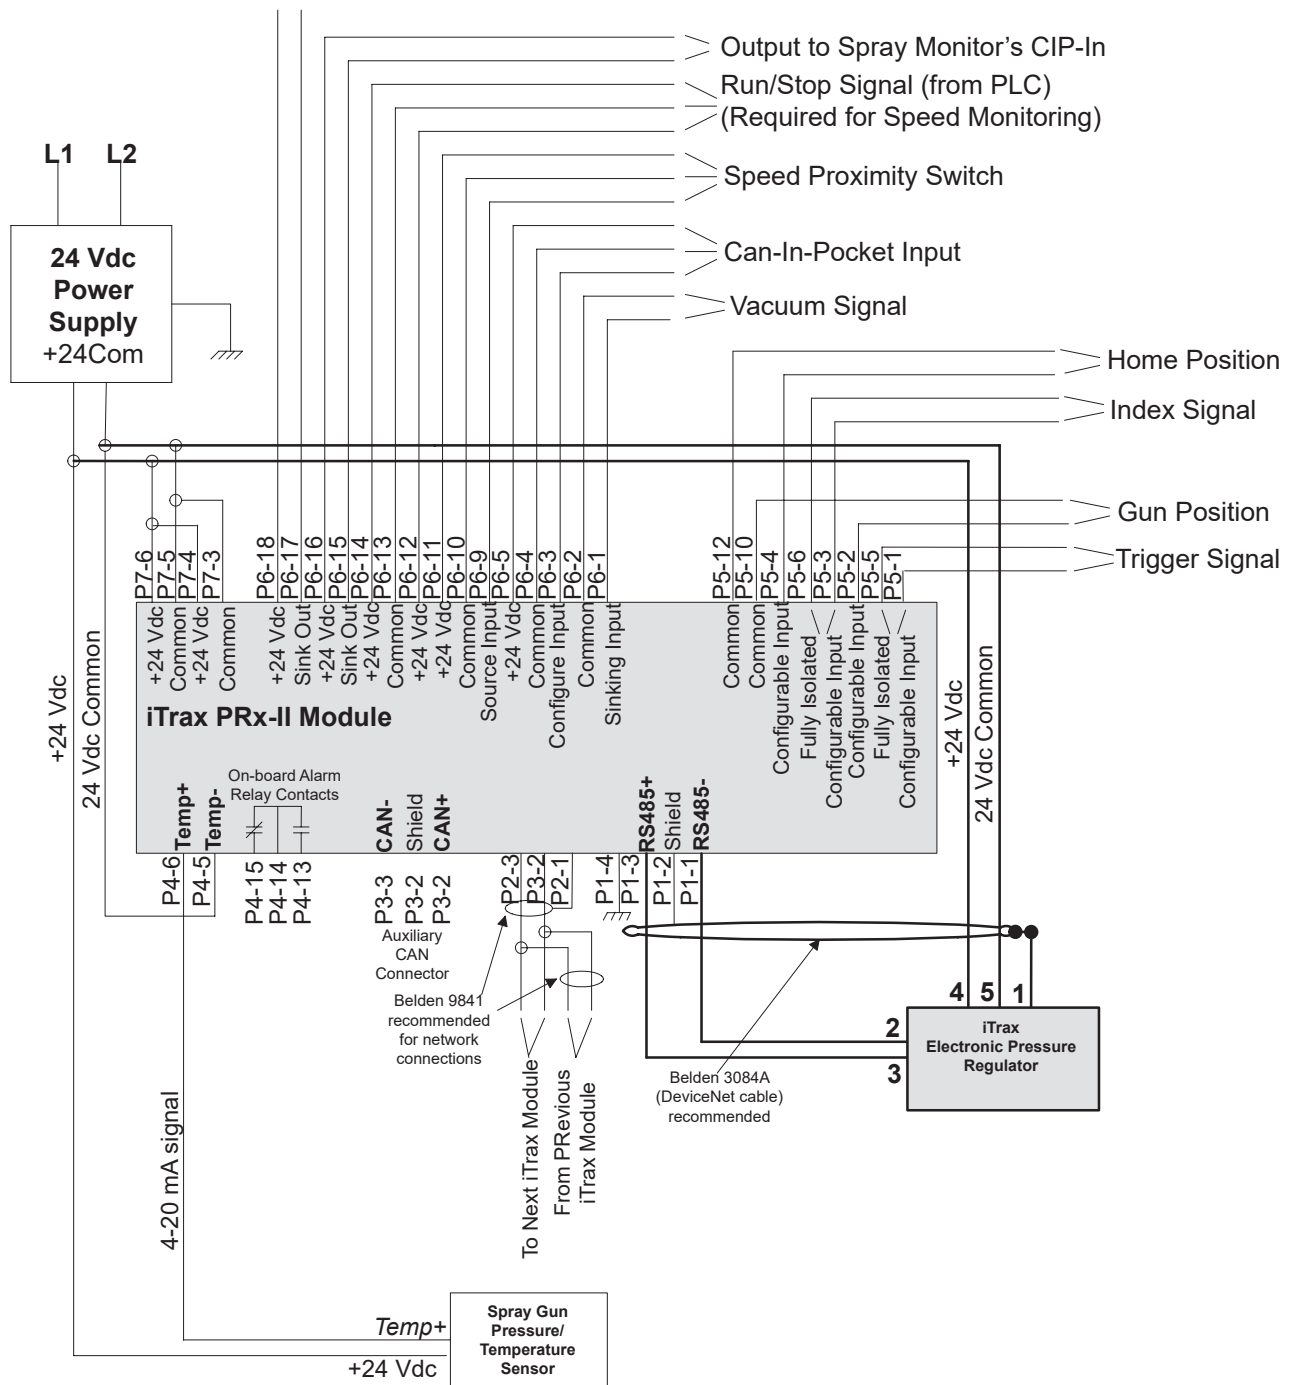

Figure 4 PRx II System WiringRepair
- See Figure 4 for a complete PRx II module wiring diagram.
See Figure 4 for wiring diagram.